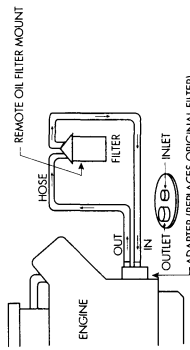

FIG. 4
6. Using the remote filter adapter as a template, drill (3) three 1/8" mounting holes. Fasten with the sheet metal screws supplied in kit.
8. Cut hoses to length. Run hose from engine adapter outlet to inlet on remote filter. Complete hose assembly and tighten clamps. See Fig. 4.